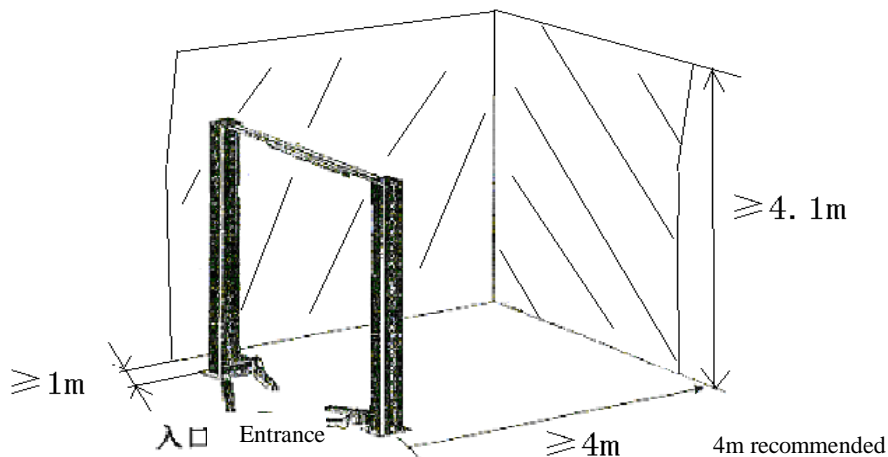

Fig.4
- I The front and back of the lift should be reserved with sufficient space to accommodate all the vehicles. (Fig. 4)